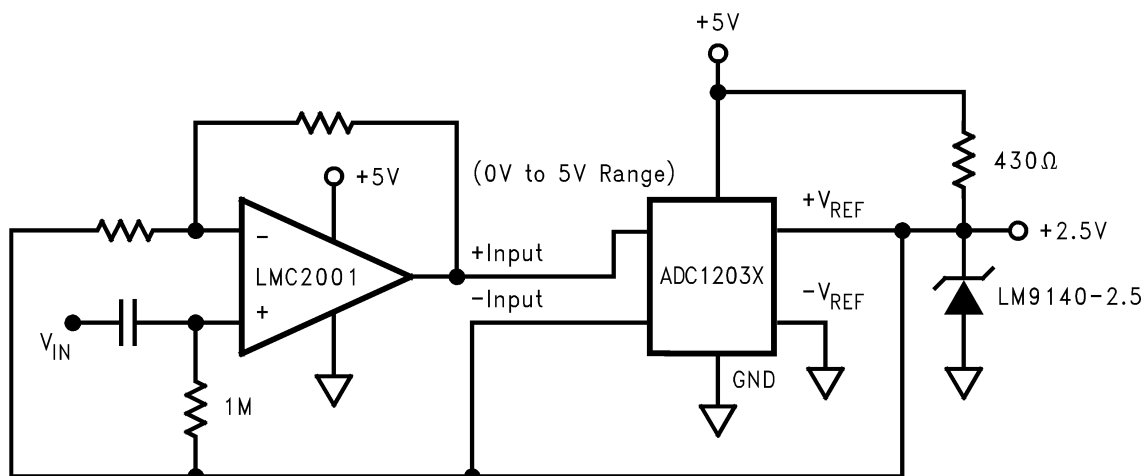
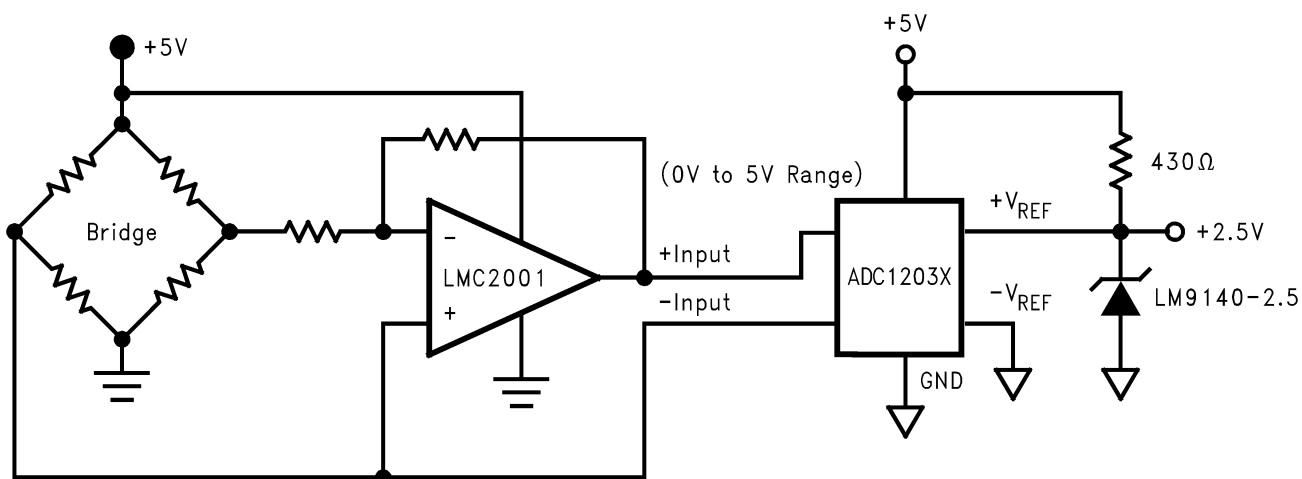

Figure 32.
Figure 33.
The LMC2001 is a great choice for an amplifier stage immediately before the input of an A/D converter (AC or DC coupled) see Figure 32 and Figure 33 because of the following important characteristics:
- Rail-to-Rail output swing maximized the ADC dynamic range in 5V single supply converter applications. Below are some typical block diagrams showing the LMC2001 used as an ADC amplifier (Figure 32 and Figure 33).